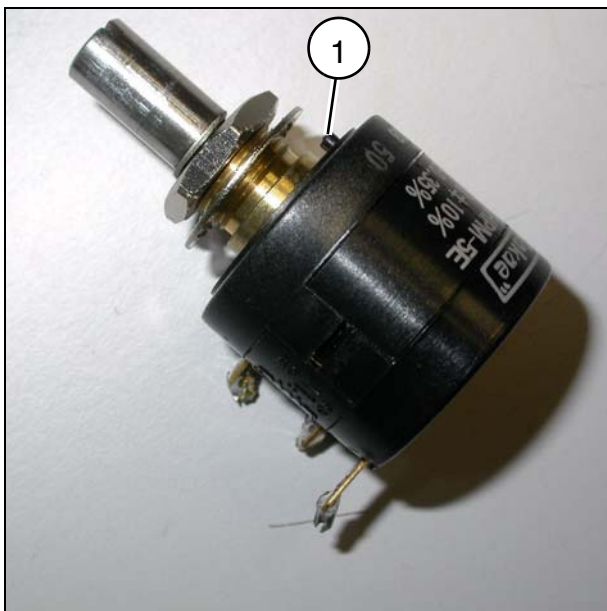

Fig. 3
- Unscrew and remove the potentiometer from its metal enclosure, if any; note down the numerical and color coding and de-solder the wires (Fig. 3). As help here the usual coding (observe the reality, it can differ!).
- Attach and solder the wires onto the contact lugs of the new potentiometer. Place it into its metal enclosed observing the position of the little pin (1/ Fig. 3) which should prevent its turning; apply the washer and the mounting nut and tighten it.